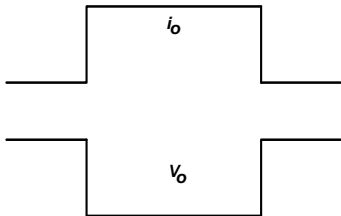
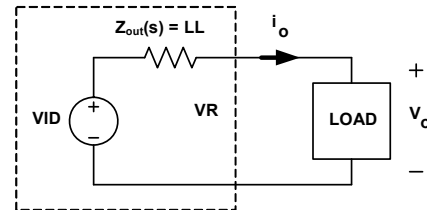

FIGURE 23. DESIRED LOAD TRANSIENT RESPONSE WAVEFORMS
FIGURE 29. VOLTAGE REGULATOR EQUIVALENT CIRCUIT
Assuming the compensator design is correct, Figure 23 shows the expected load transient response waveforms if C_n is correctly selected. When the load current i_{core} has a square change, the output voltage V_{core} also has a square response.
Figure 23 shows the desired load transient response waveforms. Figure 29 shows the equivalent circuit of a Voltage Regulator (VR) with the droop function. A VR is equivalent to a voltage source ($= V_{\text{ID}}$) and output impedance $Z_{\text{out}}(s)$. If $Z_{\text{out}}(s)$ is equal to the load line slope LL, i.e., a constant output impedance, then in the entire frequency range, V_o will have a square response when i_o has a square change.